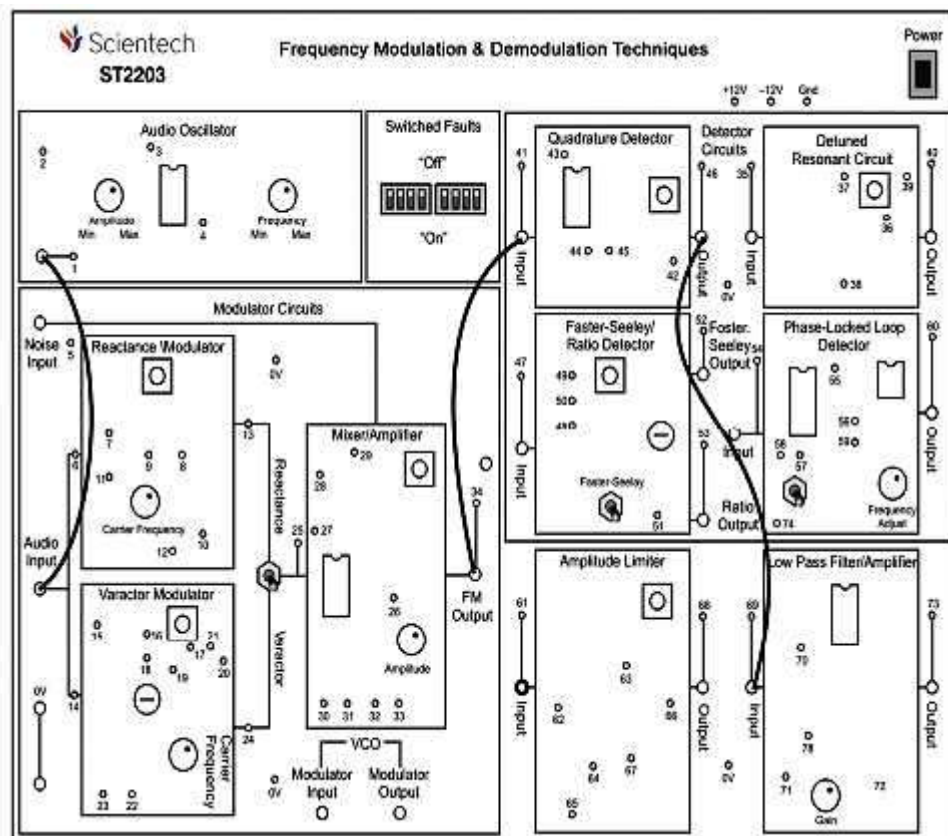

Fig.4.7
2. Make the connections shown in figure 4.7.